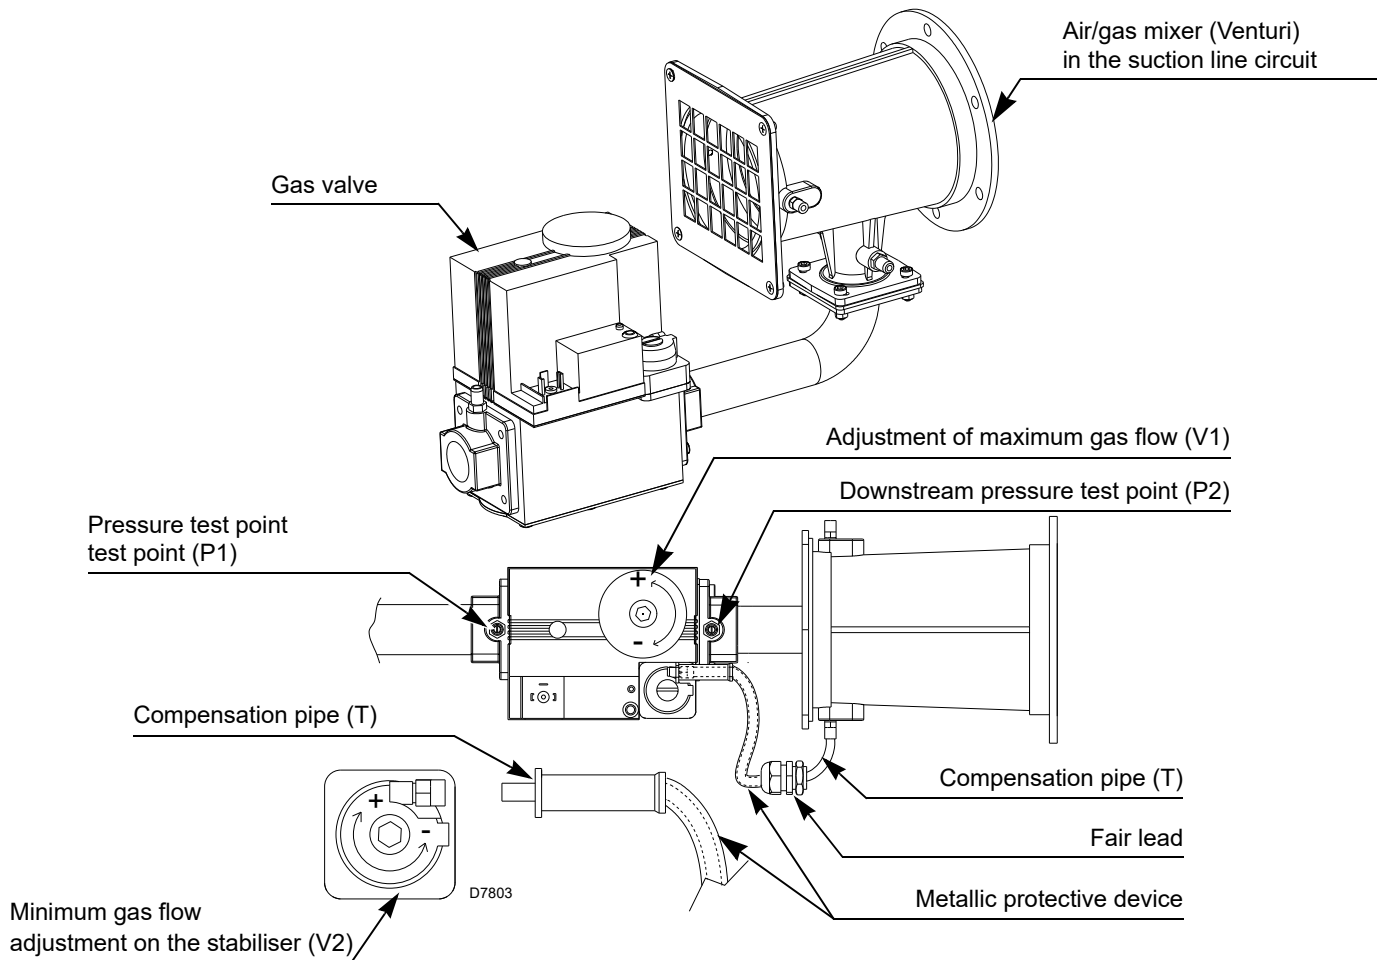

Fig. 21
The pipe (T)(Fig. 21) between valve-Venturi allows compensation to occur for accidental occlusion of the suction line due to a reduction in gas delivered.